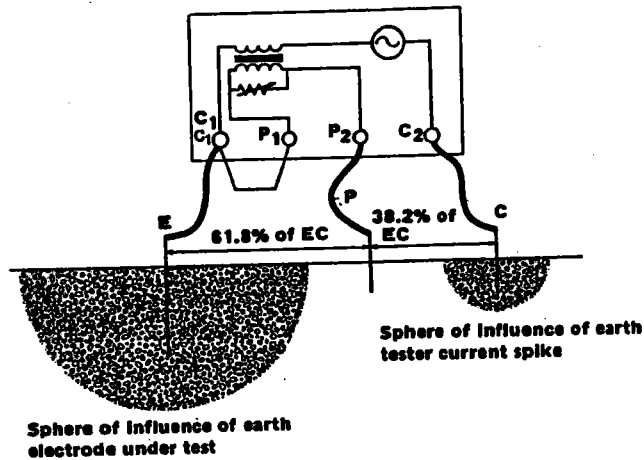
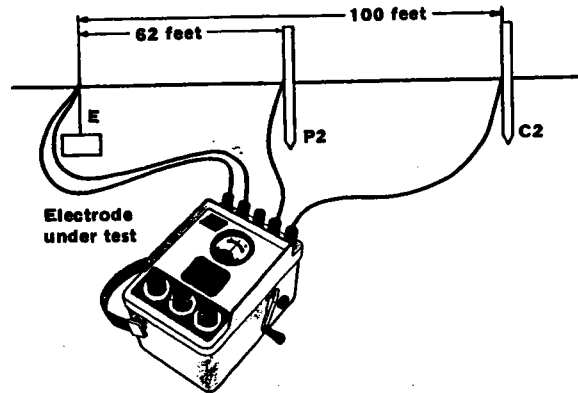

Figure 3-2. Positioning Ground Rods in Relation to the Electrode Under Test.
Figure 3-6. Alternative Connections for Testing Resistance to Earth of an Earth Electrode Compensating for Cable Resistance where Long Leads are Required.
b. **TEST ELECTRODE SPACING.** Fall-of-potential or 3-point method is commonly used for single rod or small earth grids. This involves positioning current and potential rods C and P as shown in Figure 3-2 and connecting these by suitable cables to the earth tester to complete the current and voltage circuit. The tester is calibrated to read directly the resistance of the electrode E under test. To obtain a valid reading, the current rod must be properly located. Since both possess spheres of influence, the C2 rod must be sufficiently remote to prevent these areas from overlapping. Furthermore, the potential rod must lie between these two areas, preferably along a straight line between them.
In Figure 3-2, the dimensions of the spheres of influence of E and C are frequently unknown and to allow a safe margin the distance chosen for EC may be quite high. It is also necessary to experiment with the location of P.
1. Jumper terminals C1 and P1 and from them connect a lead to the electrode under test (E, figure 3-2). Keep this lead short as its resistance will be included in the test. However, separate leads may be used from terminals P1 and C1 to E, as in Figure 3-6, in which case the lead resistance will be excluded.